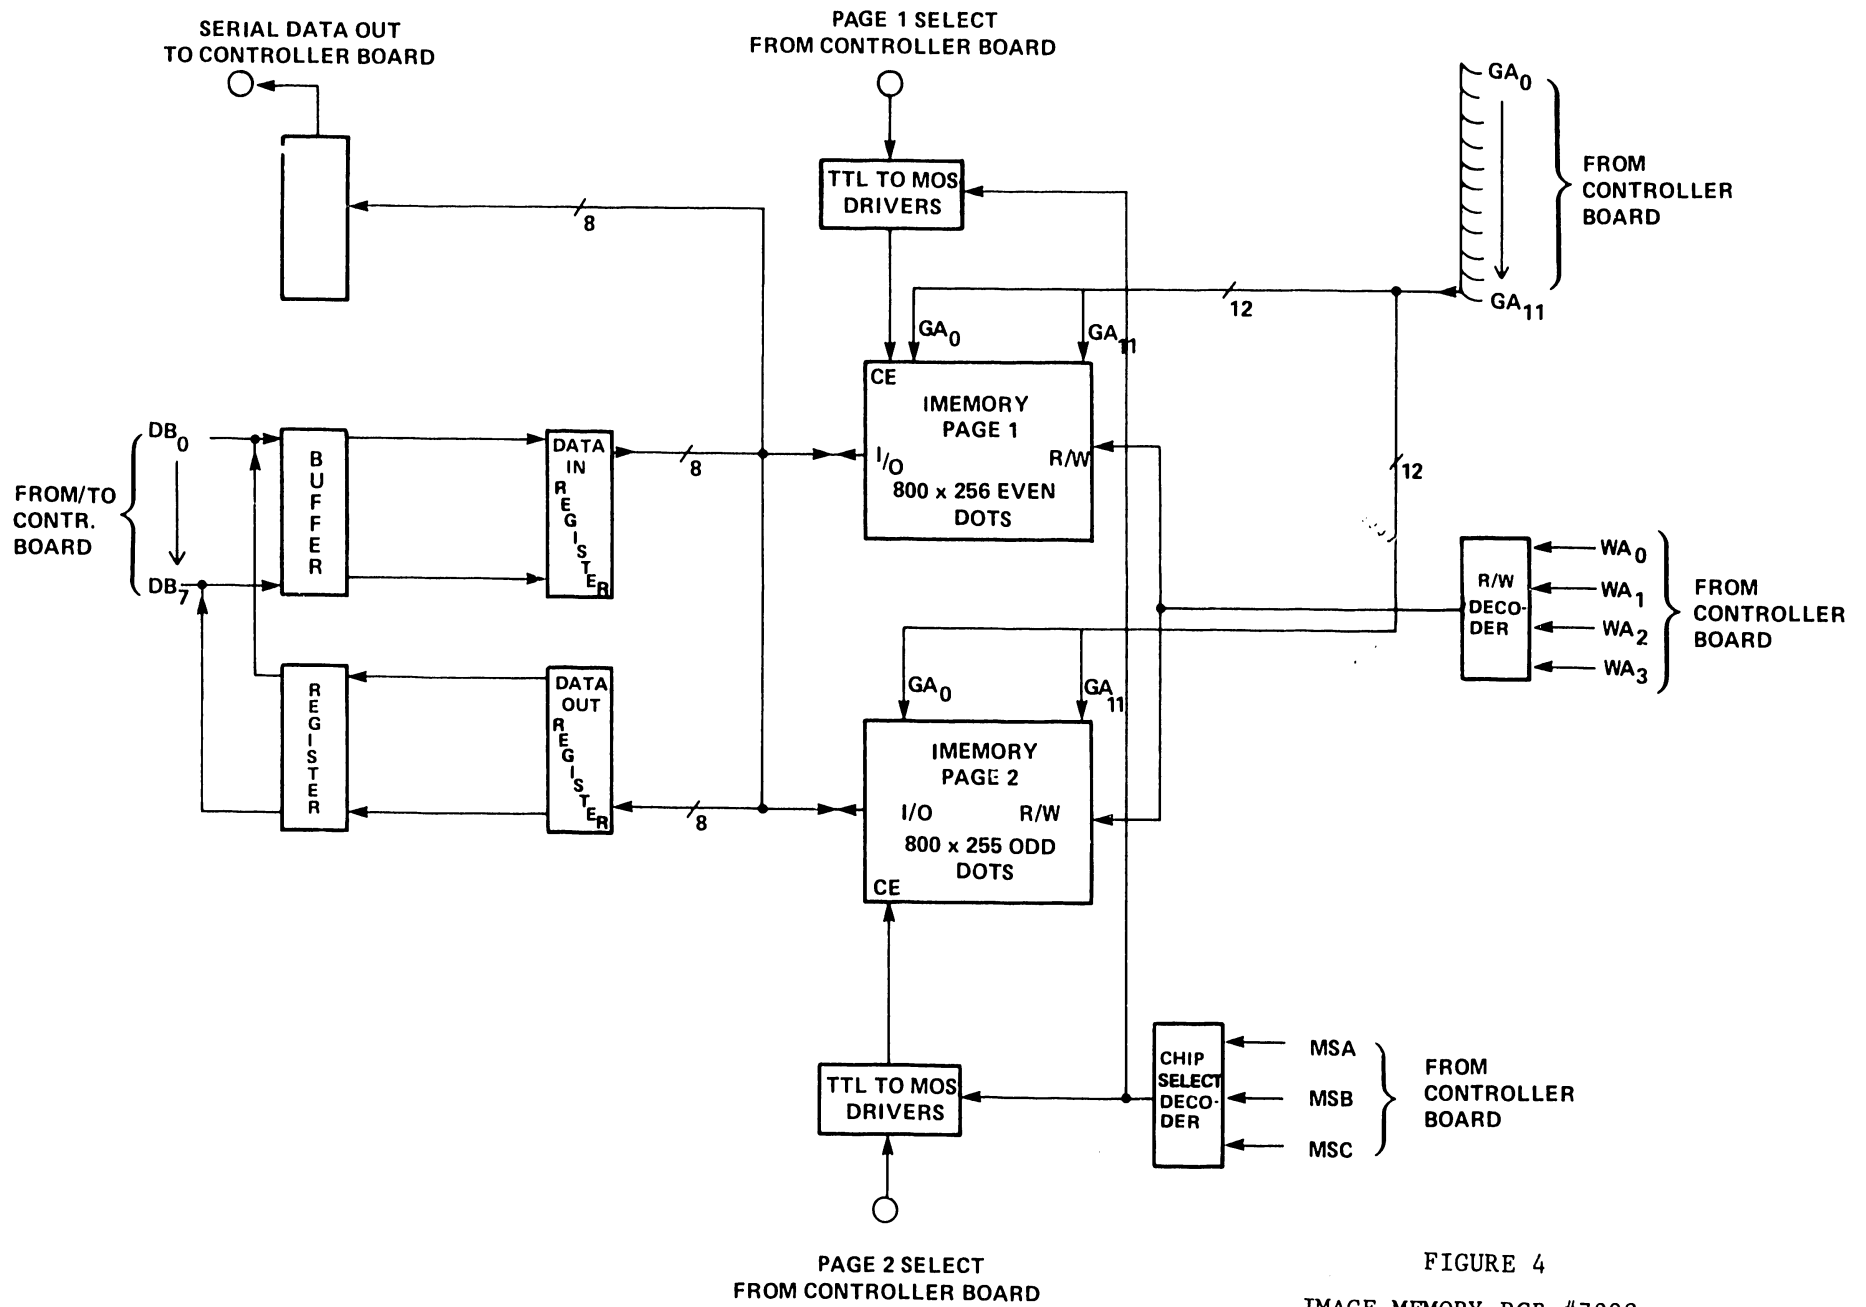

FIGURE 4
4.2.5 IMAGE MEMORY (PCB #7298 - Figure 4)